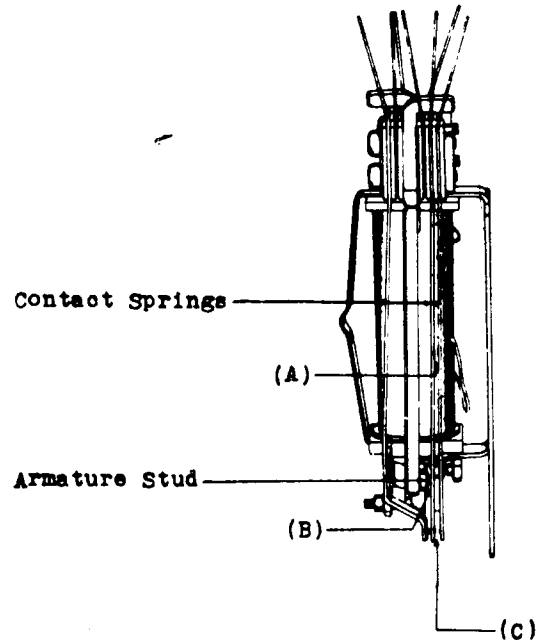

Fig. 8
- 2.13 Separation Between Springs - Fig. 8 (A)-**
2.15 Stud Gap - Fig. 8 (B) -
- 2.16 Contact Separation - Fig. 8 (C) -** The separation between any pair of contacts normally open or between any pair of contacts that are opened when the relay is operated shall be